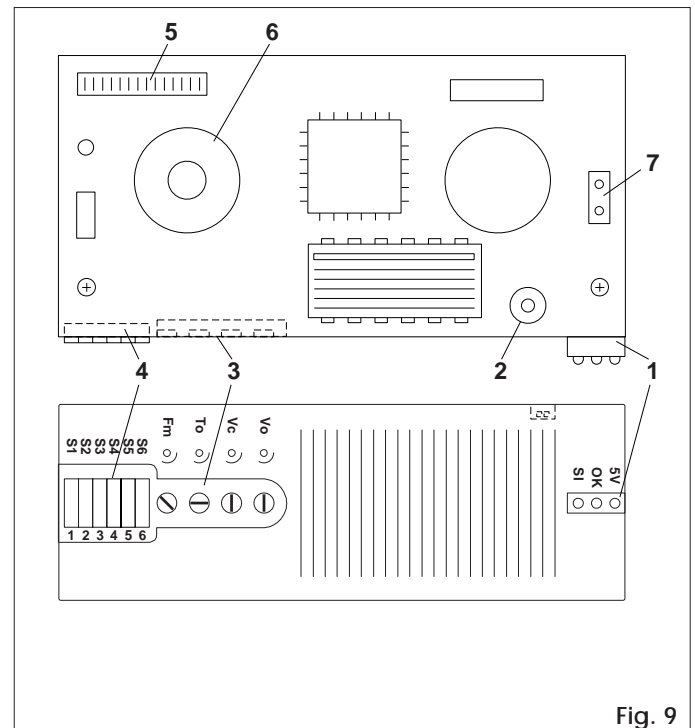

Fig. 9
- 7) Check that the 5V LED on the programming unit (fig. 9) lights up.
The programming unit features trimmers (fig. 9 - ref. 3) which regulate the following parameters: